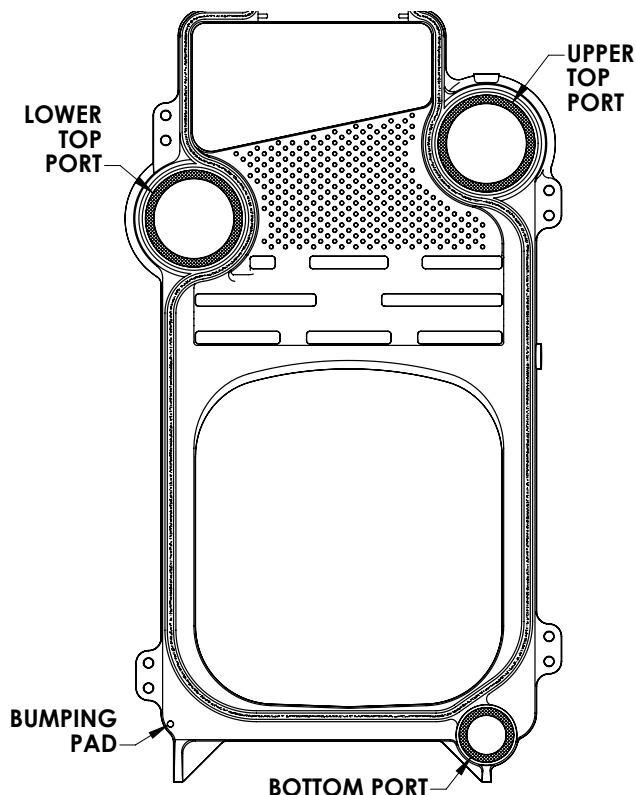

Figure 2.7: Torque Specification/Procedure
- Draw the sections together evenly, in three rotations. Torque each port to 20 ft-lbs for the first rotation, then to 40 ft-lbs for the second rotation, then to 60 ft-lbs for the third rotation. Use the following sequence until all three ports touch metal-to-metal at 60 ft-lbs. See Figure 2.7 for port reference.
- Tighten these (3) three locations only to a torque value of 60 ft-lbs. DO NOT EXCEED.